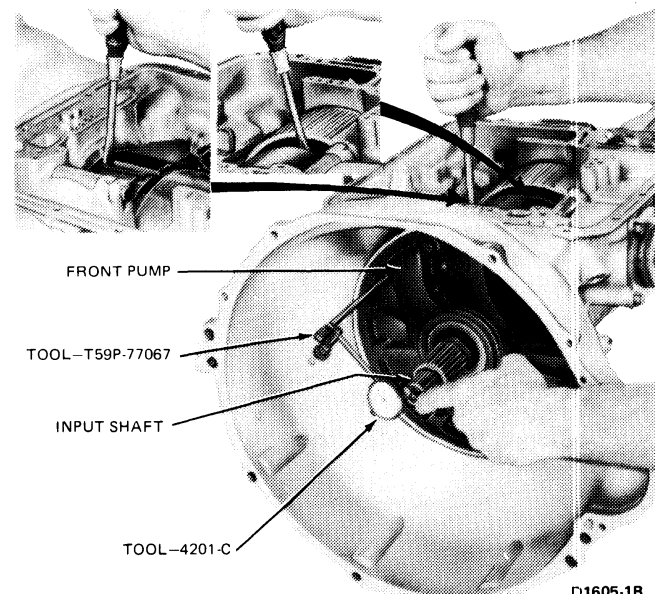

FIG. 13 Checking Gear Train End Play
4. Attach a dial indicator to the front pump as shown in Fig. 13. Install Tool T61L-7657-B in the extension housing to center the output shaft.
5. Pry the gear train to the rear of the case and at the same time, press the input shaft inward until it bottoms, (Fig. 13). Set the dial indicator to read zero.
6. Pry the gear train forward, (Fig. 13), and note the amount of gear train end play on the dial indicator. Record the end play to facilitate assembling the transmission. Remove the dial indicator from the pump and the tool from the extension housing.
28. Install Tool 4201-C at the seventh pump mounting bolt (Fig. 13) and check the transmission end play. (See specifications at the end of this Part.) Remove the tool.